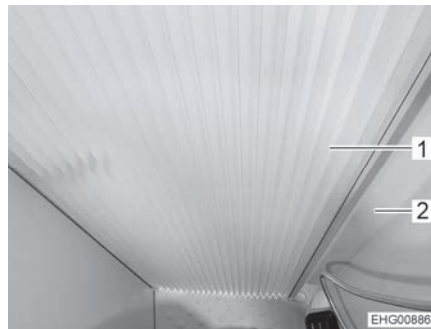

Fig. 158 Pleat, closed
- Close the pleat (Fig. 158,1). To do this, pull the pleat towards the large swivel wall (Fig. 158,2) until the magnetic catch holds the pleat in position.